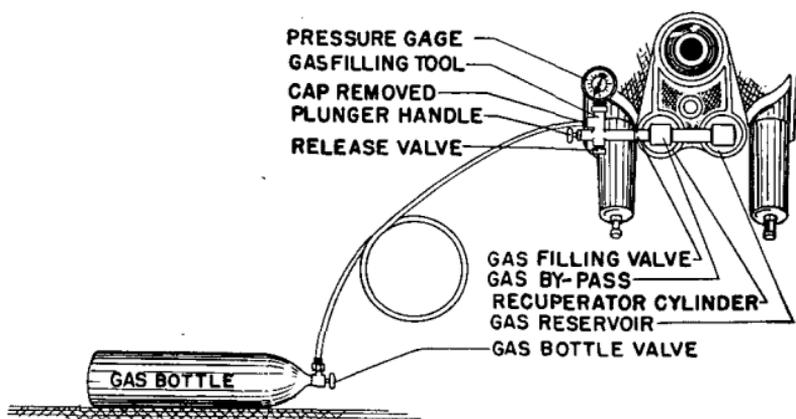

FIGURE 11.—Method of replenishing gas in recuperator cylinder.
■ 59. TO CHARGE RECUPERATOR WITH GAS.—Although the recuperator is normally recharged by ordnance personnel, the operation may be performed by the using personnel if necessary. The procedure is as follows: Remove the closing plug (16) (fig. 10) over the gas filling valve in the gas bypass at the front of the recuperator and attach the gas filling device with gage attached. Remove the cap (fig. 11) below the gage and attach the filling tube which is also connected to a gas bottle. Close the release valve and turn the handle of the